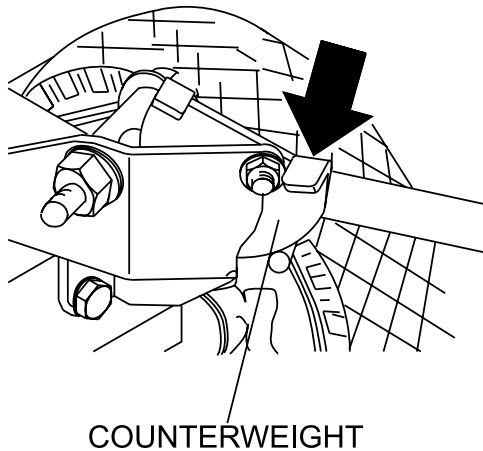

Figure 19. Outriggers (Released)
- To unlock outriggers, push downward on the counterweight lever indicated by arrow (Figure 19).